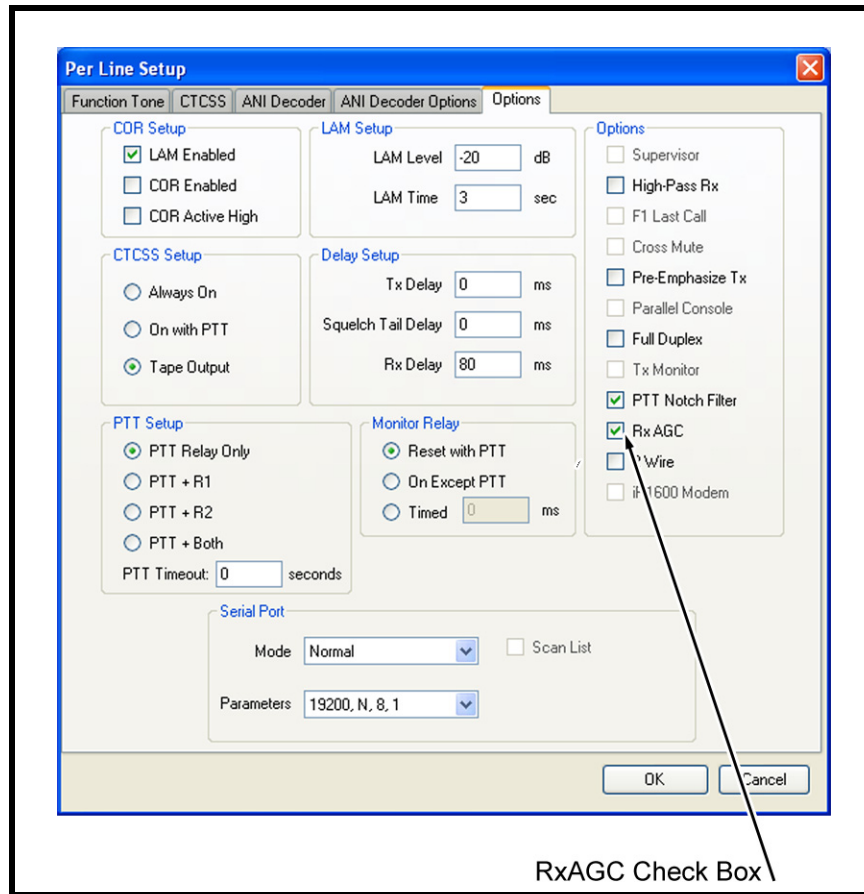

FIGURE 3. Per Line Setup Notebook—Options Page
*The Options page appears. See Figure 3.*